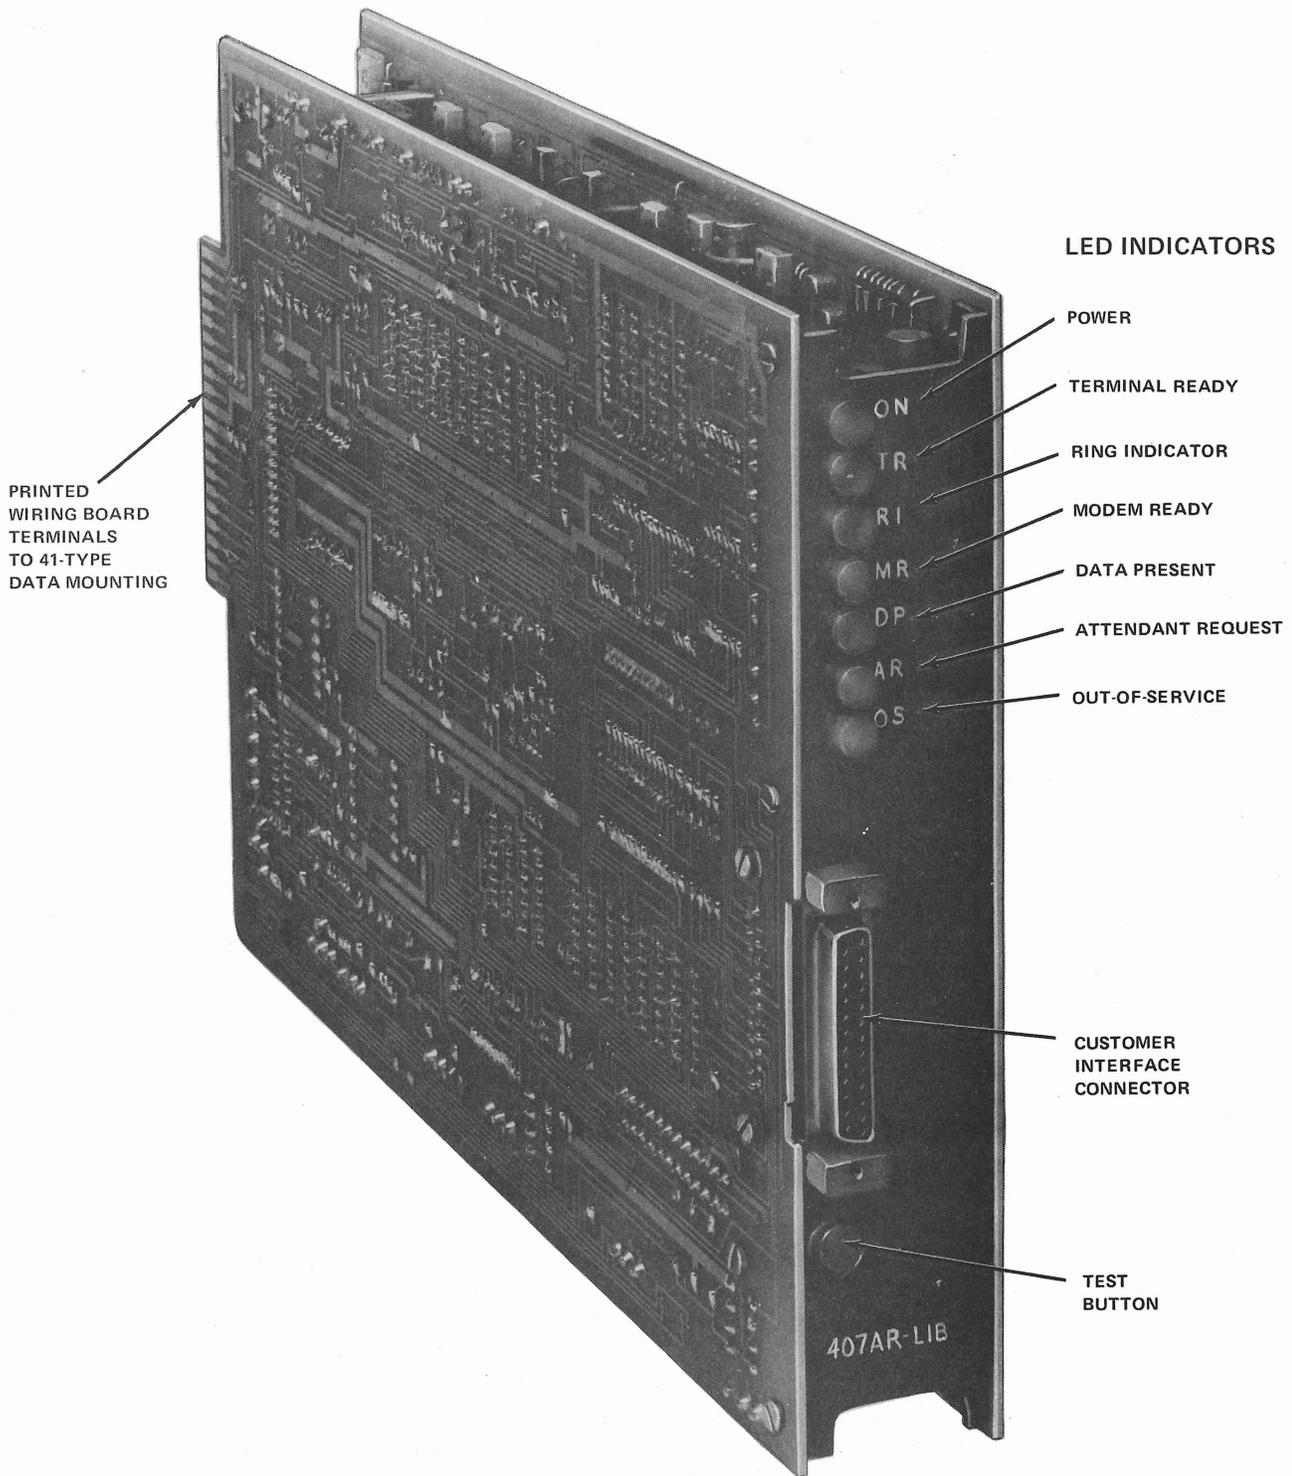

Fig. 2—Data Set 407AR-L1B
1.07 Data set 407-type is a low-speed, parallel receiver that detects two-out-of-eight multifrequency signals generated by a TOUCH-TONE-type telephone. The data set receives data from either the 2-wire switched telecommunications network or an unconditioned private line facility. The data set provides a two-way voice channel as well as full-time remote control. The remote control feature enables the data set to receive TOUCH-TONE signals in the presence of outgoing voice or tone answer-back. The data set has the capability of generating a 2025-Hz answer-back tone. Status light emitting diodes (LEDs), as shown in Fig. 2 and 3, are provided on the front panel of DS 407AR and 407BR to indicate the state of various functions and customer interface signals.
2.02 Data set 407AR-L1B (Fig. 2) consists of two printed wiring circuit packs (CPs) (JU1C and JU2) mounted together in sandwich fashion. A KS-19087-type 25-pin connector is located on the front of the data set and provides the interface with customer-provided terminal equipment. Printed CP terminals are also located on the rear of the data set which enables the data set to plug into the 41-type data mounting. The data set is about
3.08 Seven status LEDs are provided on the front of data set 407AR-L1B as shown in Fig. 2. The LED names and functions are defined as follows.
- The terminal ready (TR) LED indicates the status of the data terminal ready signal from the customer interface.
- The ring indicator (RI) LED indicates that ringing is being applied to the data set.
- The modem ready (MR) LED indicates the status of data set ready signal to the customer interface. This LED comes **on** 3 seconds
3.11 Data set 407BR-L1A (Fig. 2) performs all the functions of DS 407AR-L1B, and also provides the following three additional features: